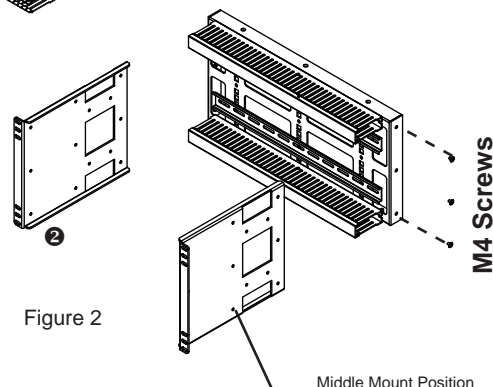

Figure 2
Step 4. Secure both side ear bracket ❷ with (3) M4x8 screw for each side to complete installation. (Figure 2)